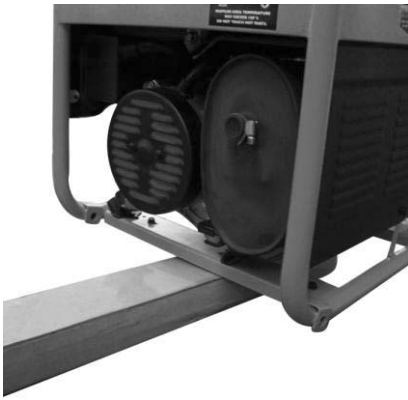

Figure 4- supporting the generator
1. Find a wood block or similar item that is 3 inches thick or greater and rest the exhaust end of the generator on the block as shown in figure 4.